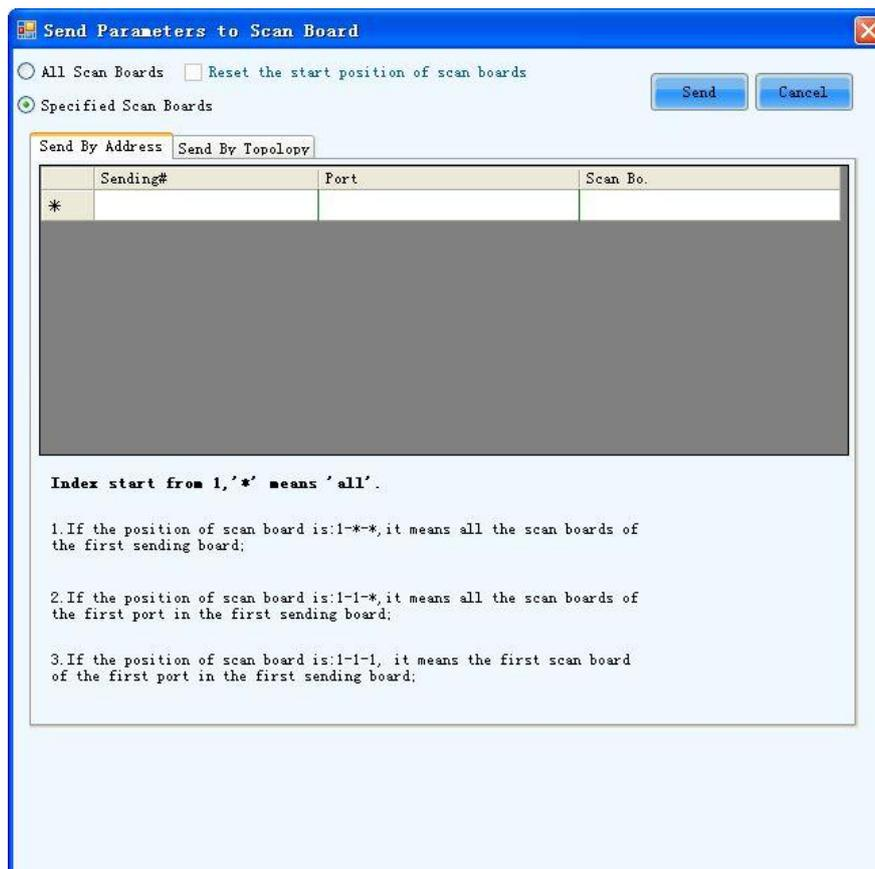
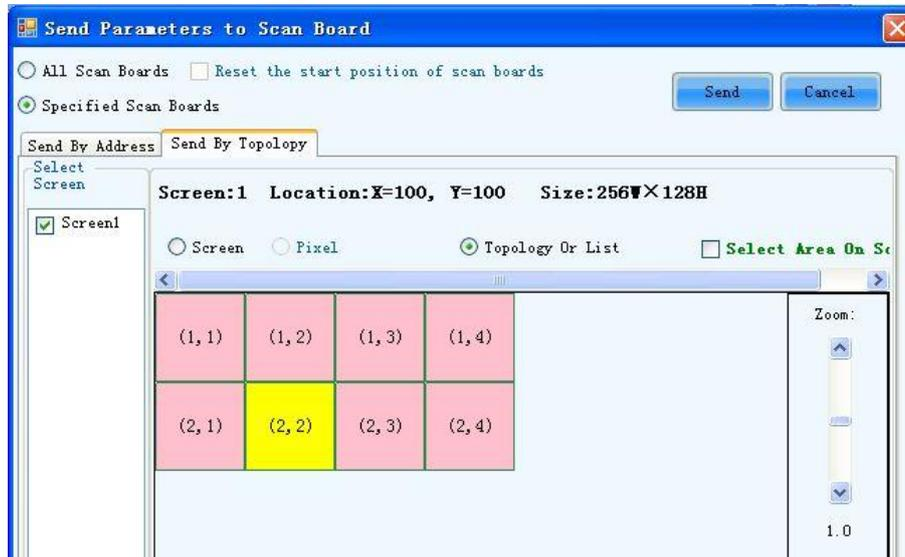

Fig. 5-32 The Send by Address page
Fig. 5-33 The Send by Topology page
This option is for sending parameter settings to specific receiver cards. There are two ways for sending parameter settings to specific receiver cards, by address and by sketch map. Corresponding pages are shown in Fig.5-32 and Fig.5-33.
Shown in Fig.5-32 is the Send by Address page. The Sending#, Port and Scan Bo are used to
Shown in Fig.5-33 is the Send by Topology page. The sketch of the receiver cards layout is shown in this page. Select the receiver cards from the sketch. To select multiple scan boards, press the left button and drag the mouse.
2. Ethernet ports of the same sending board can also be set as hot backup of each other. As in Fig.5-32, the Ethernet port 2 is the hot backup of the Ethernet port 1.